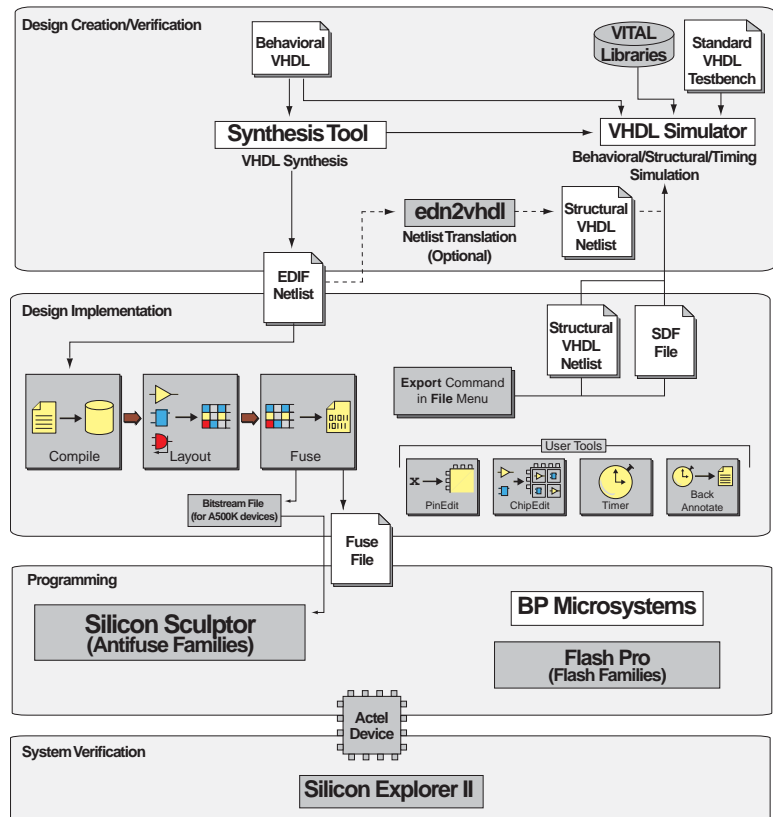

Figure 2-1. Actel-VHDL Design Flow
Figure 2-1 shows the design flow for an Actel FPGA using Designer software and a VITAL-compliant VHDL simulator¹.
1. The grey boxes in Figure 2-1 denote Actel-specific utilities/tools.